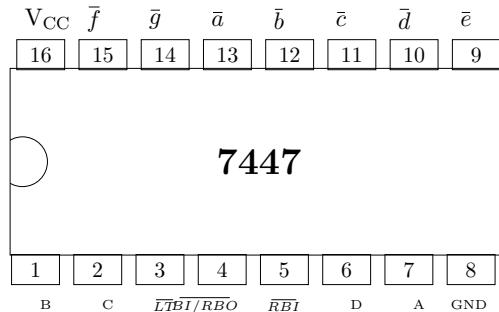

Figure 3.1:
1. Make connections between the seven segment display in Fig. 2.2 and the 7447 IC in Fig. 3.1 as shown in Table 3.2